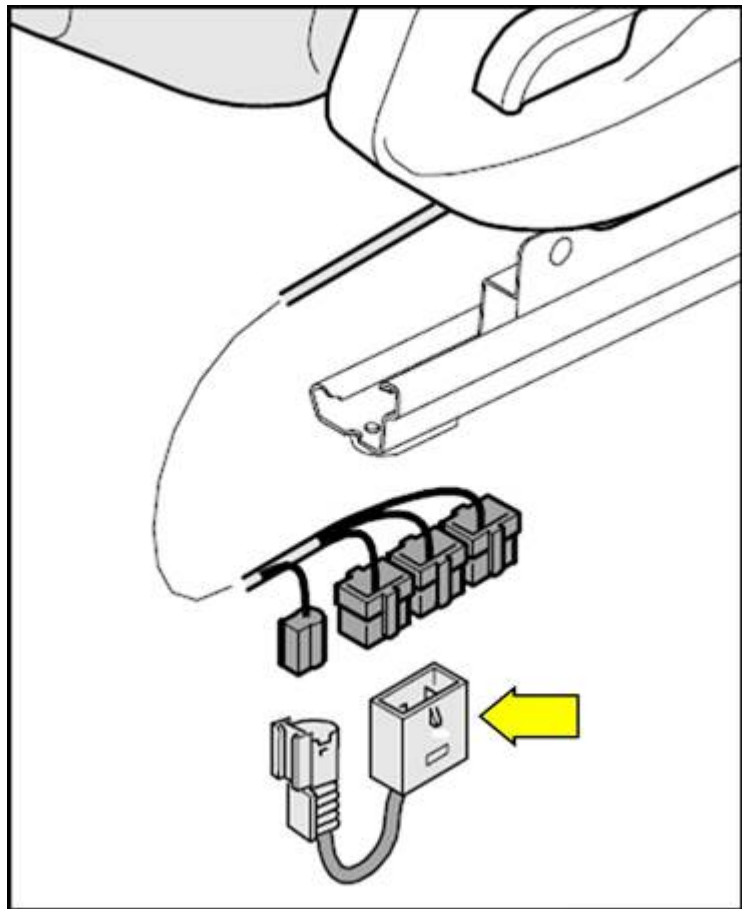

Figure 1. Airbag adapter indicated by yellow arrow.
3. Attach airbag adapter VAS 6036 (Figure 1) to seat harness. See "Airbag Adapter VAS 6036, Connecting" for the appropriate seat type in *Repair Manual >> Body >> Body Interior >> 72 Seat Frames >> Description and Operation*.